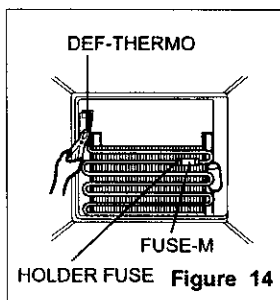

Figure 14
2. Separate the connector connected with the Defrost Control assembly and replace the Defrost Control assembly after cutting the Tie Wrap. (Figure 14)